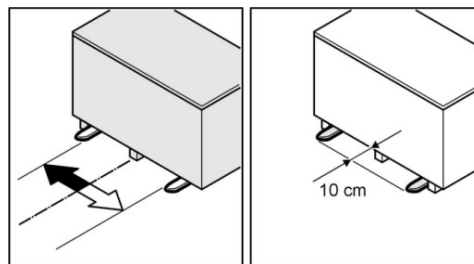

fig. 7.12
1. abide by the instructions on the crate (especially the position of the forks and the barycentre): note that the position of the forks is the widest possible [a] (fig. 7.12)